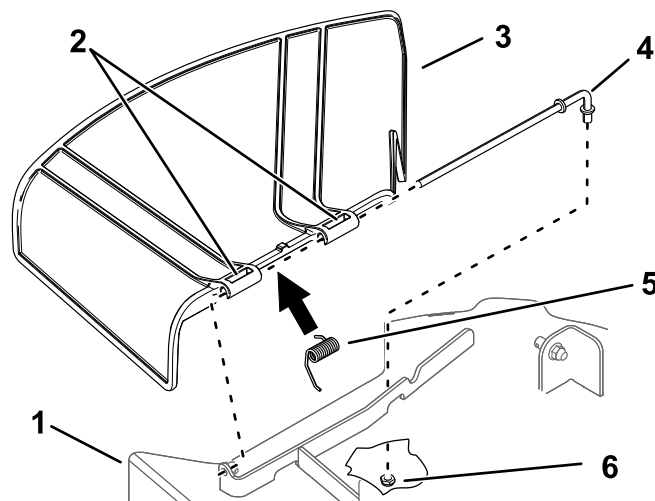

Figure 67
1. Remove the nut (3/8 inch) from the rod under the mower (Figure 67).
2. Slide the rod out of the short stand-off, spring, and grass deflector (Figure 67).
4. Install the new grass deflector (Figure 67).
7. Slide the rod through the second grass-deflector bracket (Figure 67).
9. Secure the rear end of the rod into the mower with a nut (3/8 inch) as shown in Figure 67.